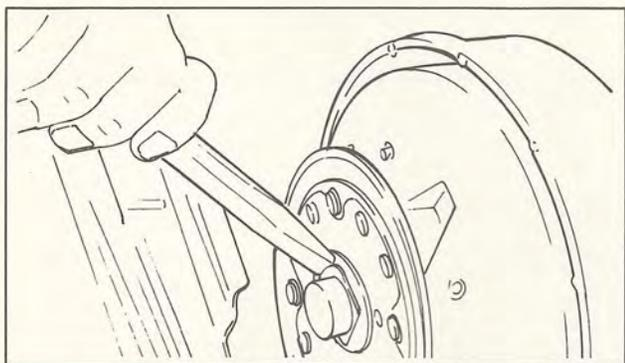

Fig. 2-7
- (1) Straighten the primary sheave assembly mounting bolt lock washer, using the chisel and steel hammer. (Fig. 2-7)